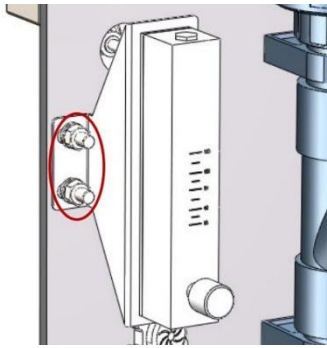

Figure. 1
1. Unscrew the nut inside the red circle, as shown in Figure.1